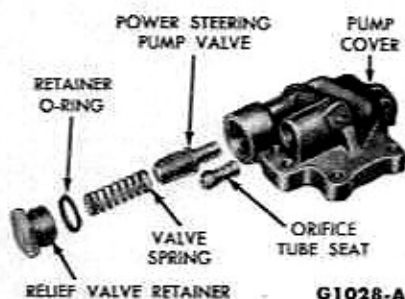

FIG. 9—Pump Cover
10. Remove the relief valve retainer (Fig. 9) from the housing cover, and remove the O-ring from the retainer.
If damage, wear, or leakage makes replacement of this seat (Fig. 9) necessary, use the following procedure.